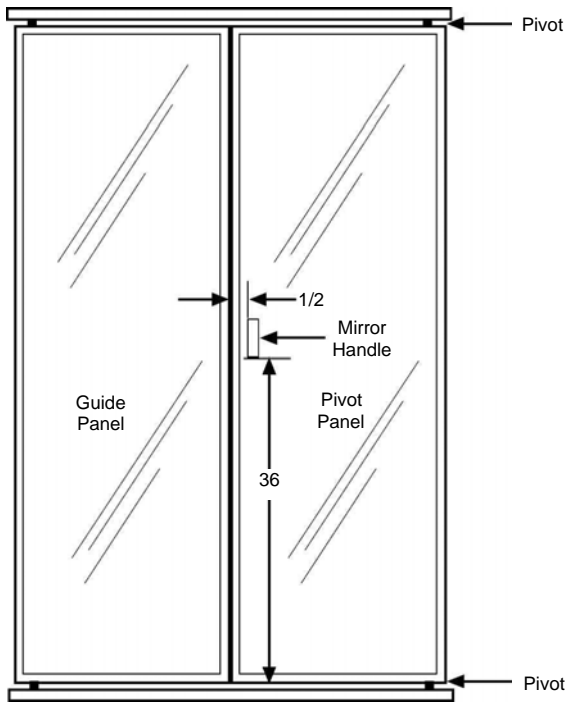

Figure 7
- Measure from the bottom of the pivot panel, up 36 and mark the mirror. Next, make a mark 1/2 in from the edge of the mirror. See Figure 7.